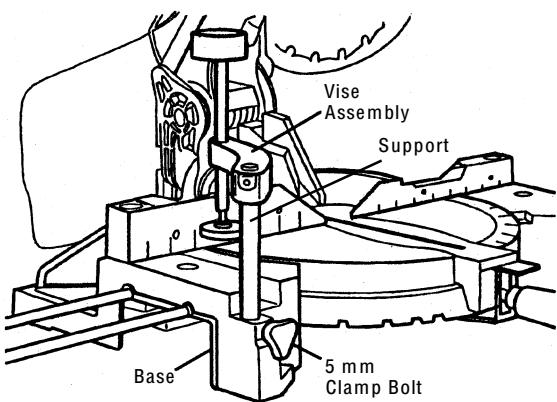

Fig. 18
- (1) The vise assembly can be mounted on either the left side base or the right side base, and can be raised or lowered according to the height of the workpiece.
- ① Insert support of vise assembly into the hole located on either the left side base or the right side base.
- ② Then tighten 5 mm clamp bolt as shown in Fig. 18.